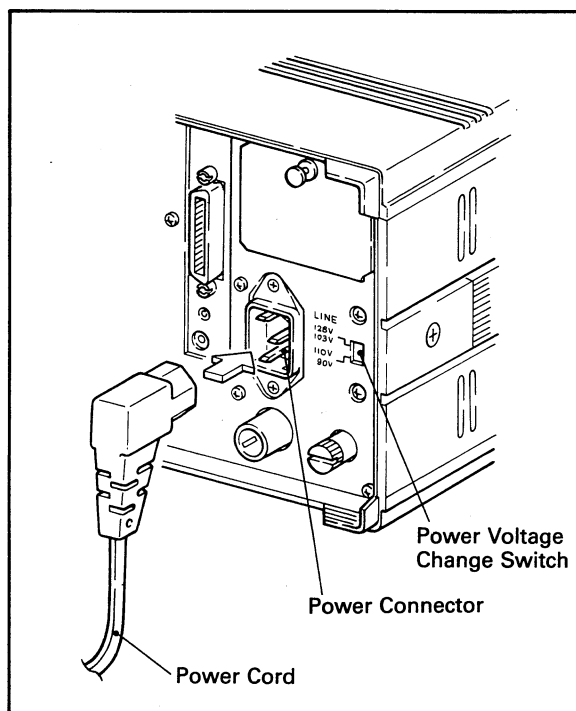

Figure 2.
- 1) Make sure the power switch of the instrument is turned OFF, and engage the furnished power cord with the power connector on the rear panel of the instrument shown in Figure 2.
Ensure the power voltage change switch located on the right of the connector shown in Figure 2 is in the proper position, down when power voltage is 100 V (200 V) according to the label, or up when 115 V (230 V).